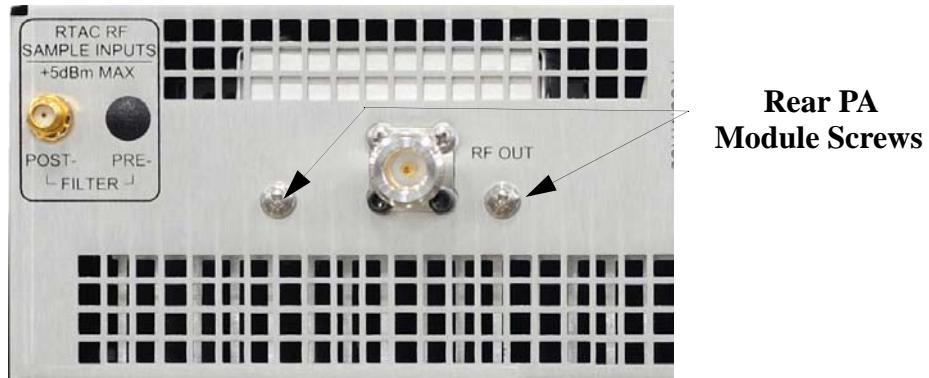

Figure 5-1 RF Output Connector
STEP 3 See Figure 5-1. Remove the two screws from the rear panel on either side of the output connector.